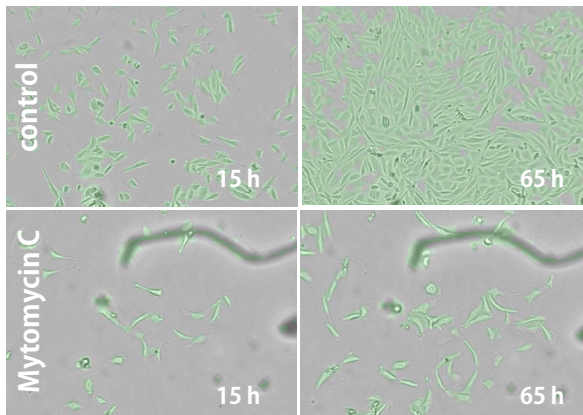

Figure 1:
- + Monitor cell growth and confluence (automated image analysis) (Fig. 1)